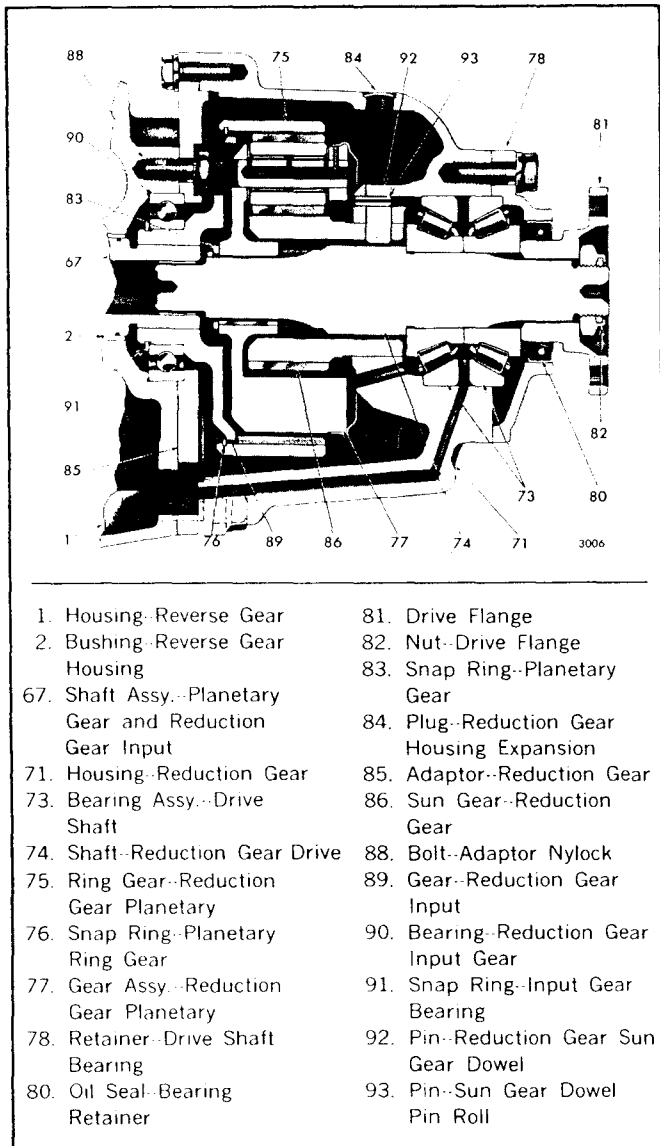

Fig. 4 - Reduction Gear Assembly (1.5:1 Ratio)
On the 1.5:1 ratio reduction gear shown in Fig. 4, remove adaptor (85), reduction gear input gear (89), ring gear (75) and input gear bearing (90) as an assembly from the reverse gear housing as follows: